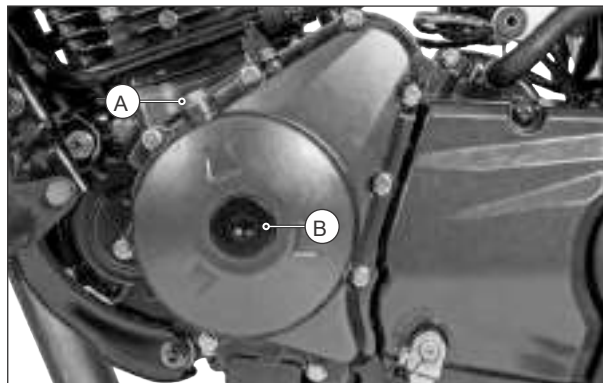

Fig. 3.75
- Remove plug TDC (A) along with the gasket. (Fig. 3.75)
- Remove plug crankshaft hole (B). (Fig. 3.75)